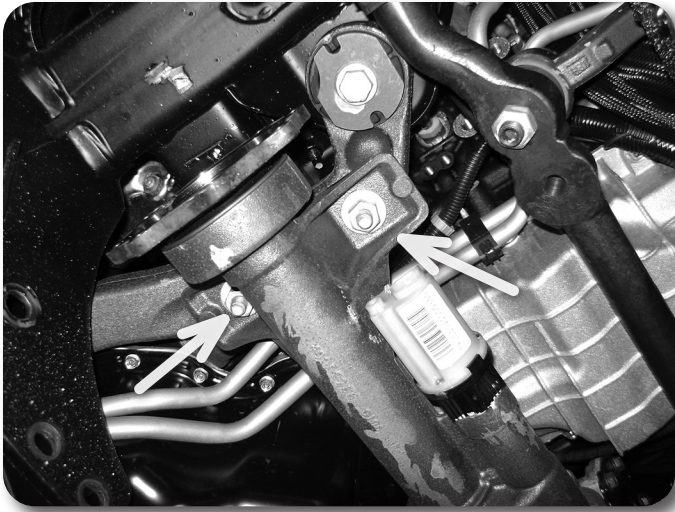
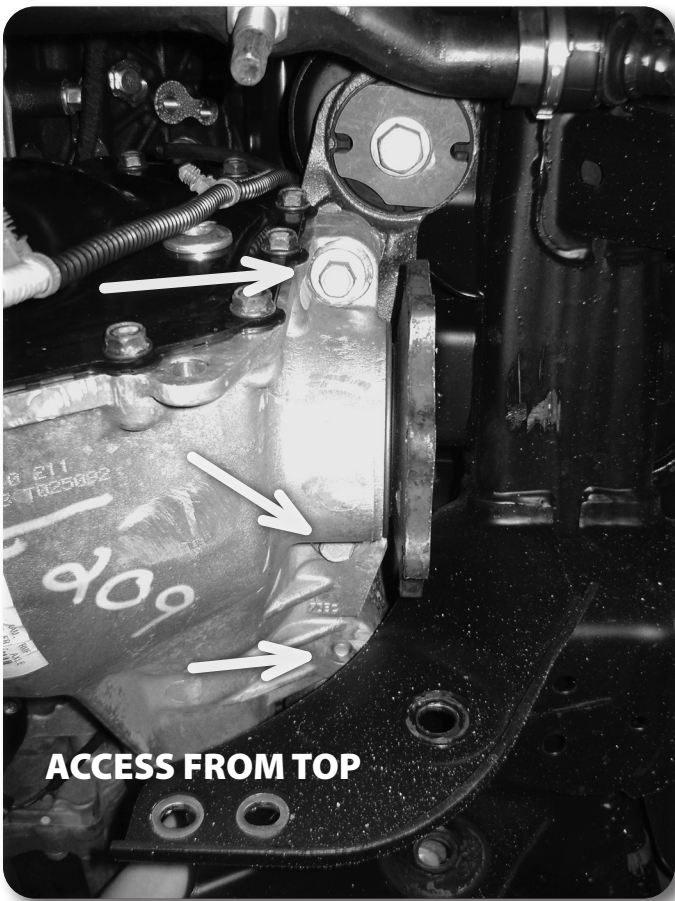

Figure 18A
Figure 18B
29. Loosen but do not remove all of the front differential mounting bolts/nuts. There are two nuts on the passenger's side (Figure 18A) and three bolts on the driver's side (Figure 18B - two mount from the bottom up and one from the top down). Remove the rear-most bolt mounting from the top.